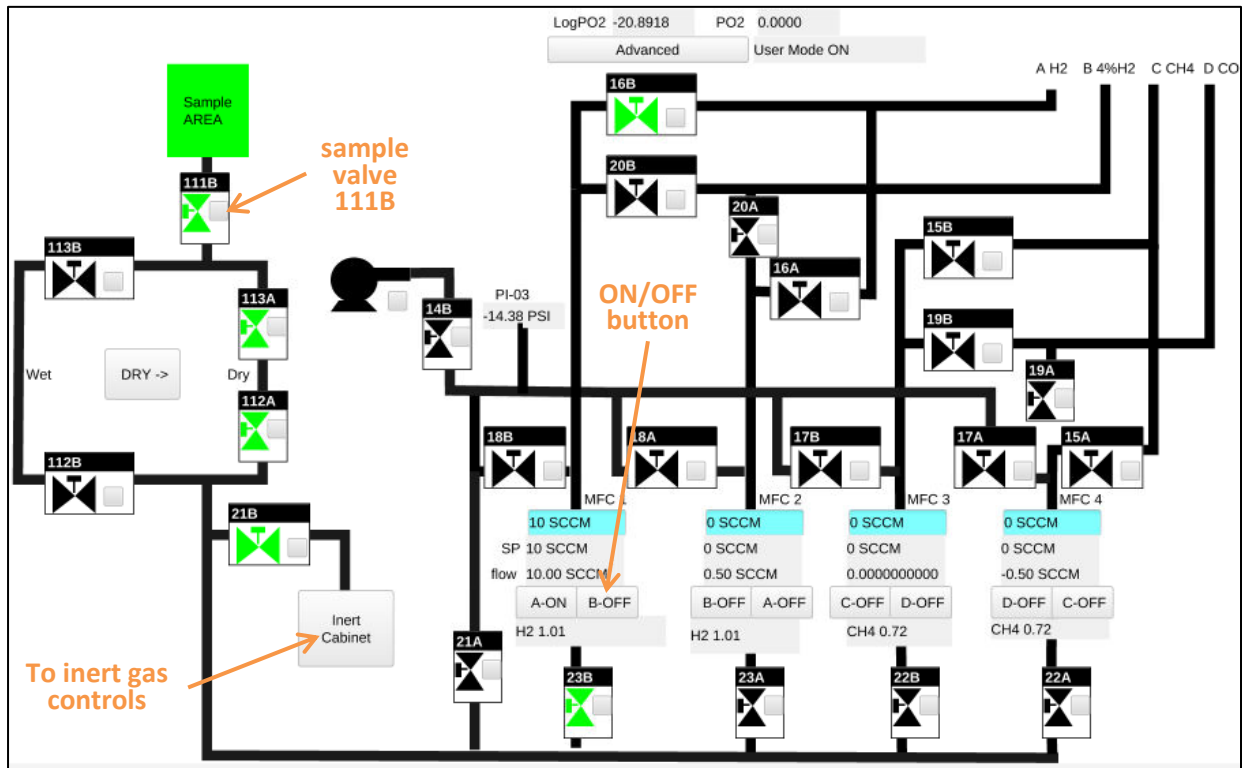

Figure 3. AGES control screen for hazardous gases.
- a. Stop gas flow by setting flow rates to 0 sccm and pressing the ON/OFF button for the appropriate gases on the AGES software (Figure 3).